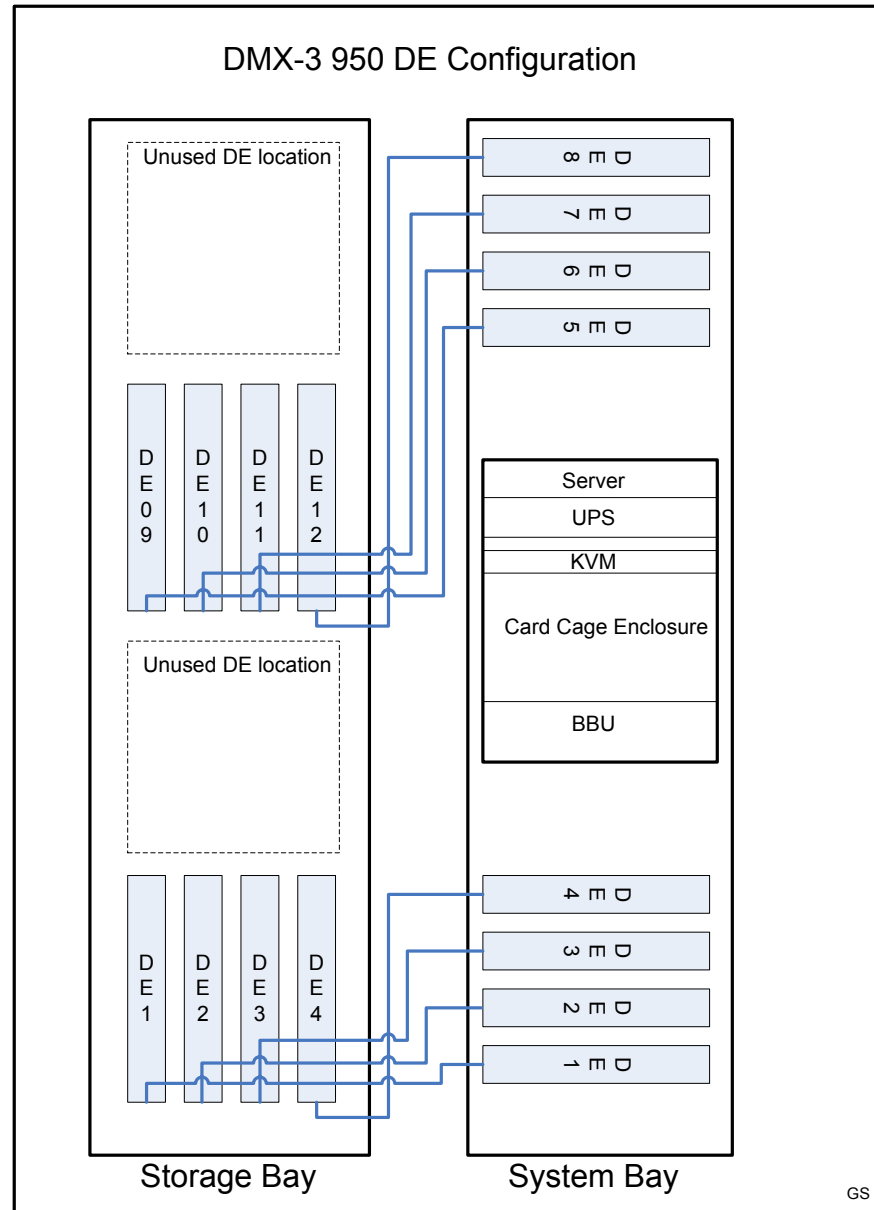

Figure 2:
2. The DMX-3 950 system bay use a mid-plane design that houses a 6 slot horizontal layout card cage, as compared in the typical DMX-3 that uses a 24 vertical slot layout. The horizontal layout allows 8 disk enclosures (DE) with a total capacity of 120 drives to be incorporated into the system bay.
3. The DMX-3 950 storage bay accommodates 120 drives in 8.73sqft footprint. The physical disk drives are partitioned into DE's of 15 drives each. Figure 2, depicts the DE layout for a system and storage bay.